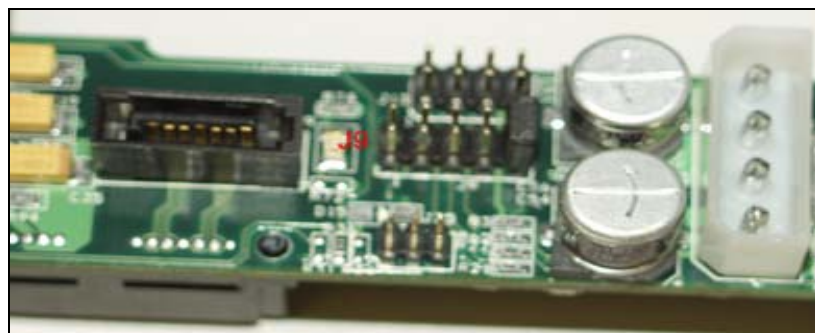

Figure 6 – Installing shunt.
- a. See **Figure 6** for details on how to install shunt.